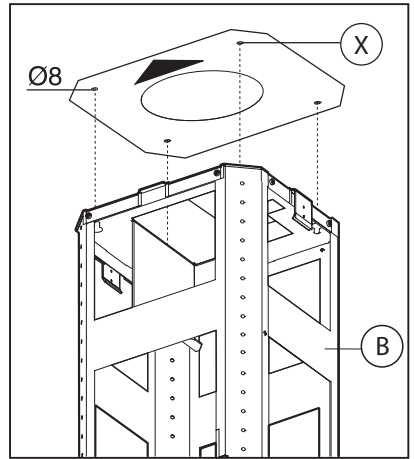

Fig.3
-Position hole template on the ceiling paying attention that the arrow is positioned on the same side as the appliance controls (Fig.3). Make 4, Ø8 holes in the ceiling and drive in 3 screws without completely tightening them. Pay attention not to insert the screw into the hole marked with an **X** on the hole template (the screws and expansion plugs must be suitable for the type of wall).